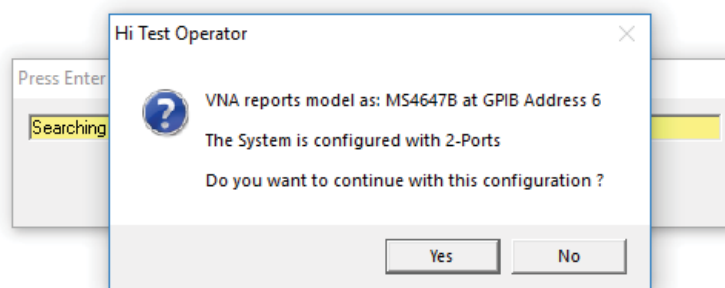

Figure 2-7. VNA Confirmation Dialog Box
6. When a VNA is found, a VNA confirmation box appears, as shown in Figure 2-7.